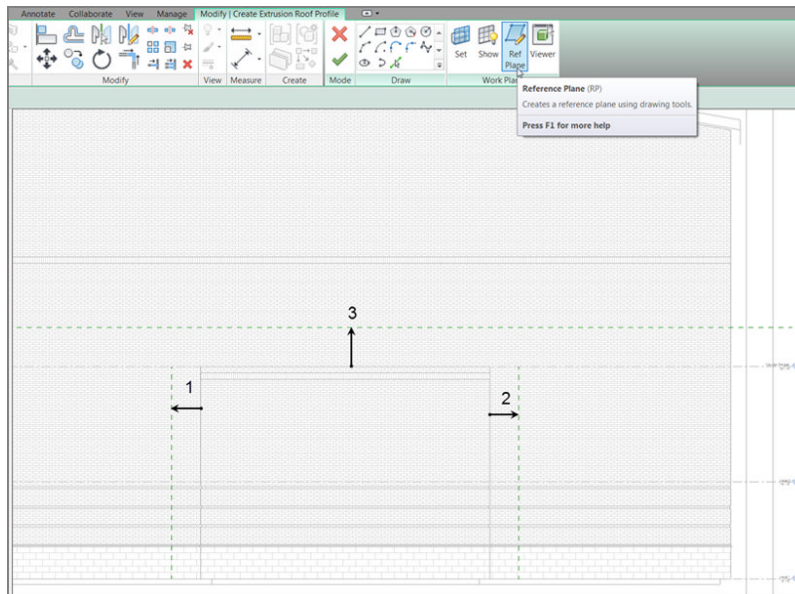

FIGURE 7.51: Adding reference planes to use as construction lines
5. In the Work Plane panel, click Ref Plane, as shown in Figure 7.51, and then click the Pick Lines button.
6. Offset a reference plane 3'-0" (900mm) to the left and to the right of the exterior walls, marked 1 and 2 in Figure 7.51.
7. Offset a reference plane 4'-0" (1200mm) up from the top of the wall, as marked 3 in Figure 7.51.